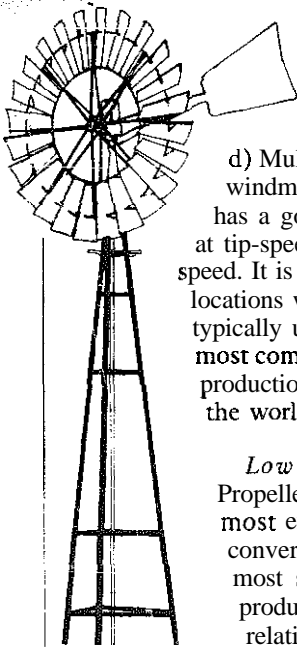

Fig 14. Multiblade, American or fan windmill. Mainly used for pumping.
d) Multiblade 'American' or fan-type windmill!! (see Fig 14). This machine has a good starting torque, and rotates at tip-speeds about equal to the wind speed. It is very suitable for use in locations with low wind speeds, and is typically used for pumping. This is the most common type of wind machine in production, in various forms, around the world.